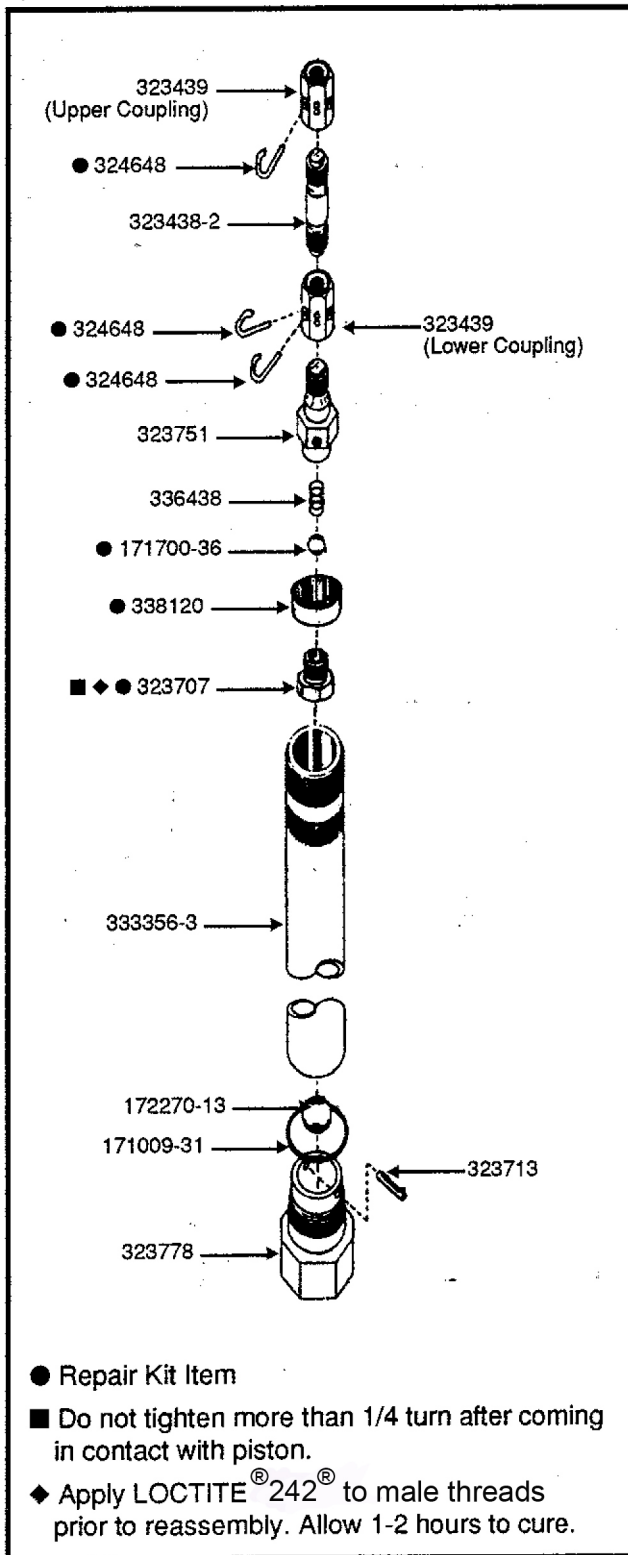
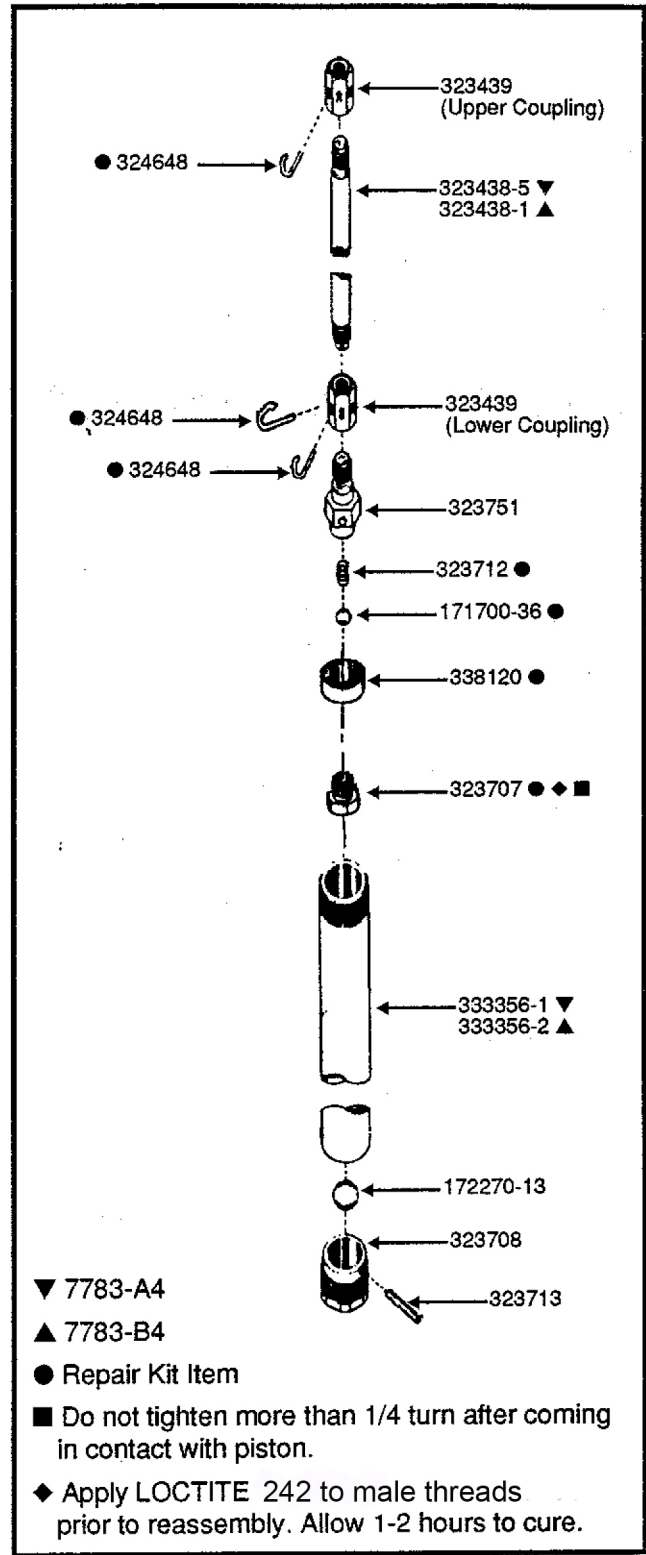

Figure 4: Pump-Tube Assembly for Model 7783-C4
Figure 5: Pump-Tube Assembly for Models 7783-A4 & 7783-B4
D. SERVICING PUMP TUBE ASSEMBLY: (Figures 4 & 5)
- 2 Grab upper coupling 323439 and pull upward until contents of pump tube is removed from cylinder 333356-1, 333356-2 (**Figure 5**) or 333356-3 (**Figure 4**).
- 3 Remove lower spring clip 324648 from upper coupling 323439. Unthread and remove upper coupling from rod 323438-2 (**Figure 4**), 323438-1 or 333438-5 (**Figure 5**).
- 5 Unthread and remove valve seat 323707 from adapter 323751. Remove piston 338120, ball 171700-36, and spring 336438 (**Figure 4**) or 323712 (**Figure 5**).
- 6 Gripping foot valve body 323778 (**Figure 4**) or 323708 (**Figure 5**), unthread cylinder from foot valve body.
Remove "O" ring 171009-31 from foot valve body (**Figure 4**).
PARTS LIST• Pump Tube Assembly (Model 7783-C4, Figure 4)